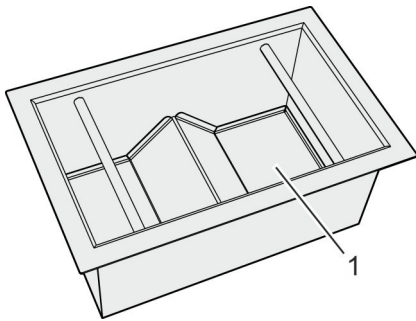

Fig. 81: Chip collection box, coarse screen
4. ➤ Clean the chip collection box (Fig. 81/1).